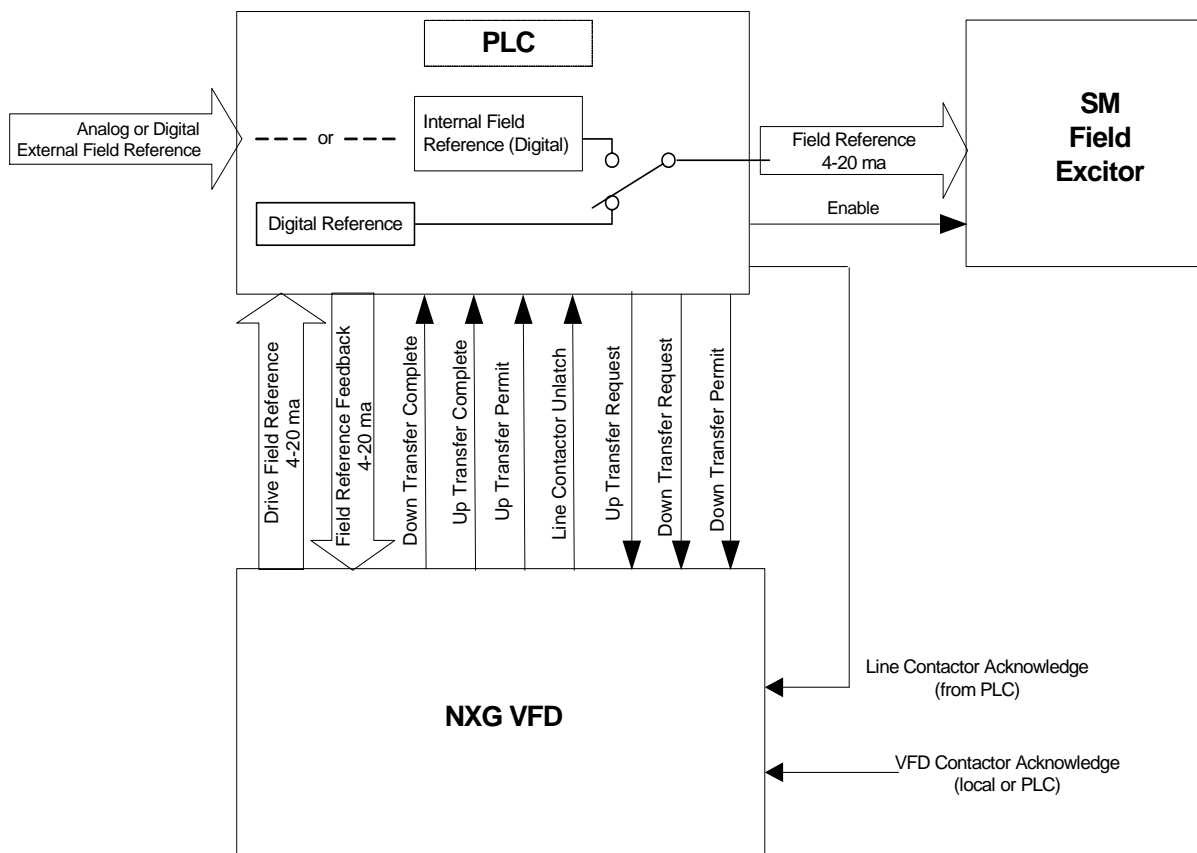

Figure 5-27: Block Diagram of Required Signals for SM Field Control Synchronous Transfer
Synchronous transfer with a synchronous machine (SM) is essentially the same as with an induction machine (IM) with the addition of transfer of the control of the motor field winding excitor from or to the drive to or from an external source. So to add to the requirements of sync transfer with SM's, an analog signal from the drive is required to control the field current, while another from the controller to the drive, is required to read the output of the external controller. Also for handshaking, with a required external controller, a minimum of two digital inputs and two digital outputs is required to provide adequate handshaking between the drive and the external controller. For most applications, this external controller takes the form of a separate PLC as shown in Figure 5-27.